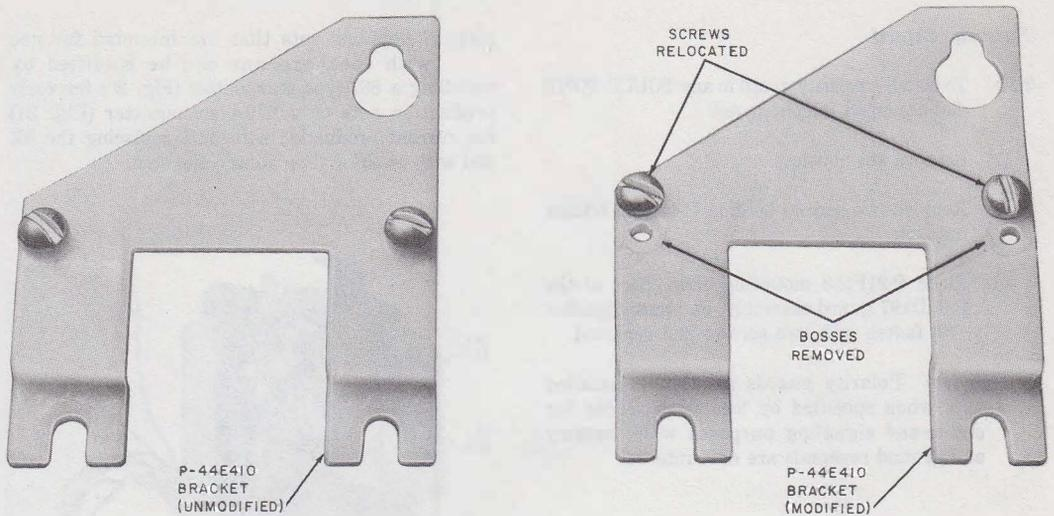

Fig. 16—Buzzer Mounting Bracket Assemblies
**Note:** Telephone sets manufactured between June 1964 and April 1966 and equipped with a one-piece bezel must have the P-44E409 bracket assembly (includes modified P-44E410 bracket, Fig. 16) installed before the KS-8109L2 buzzer can be mounted.